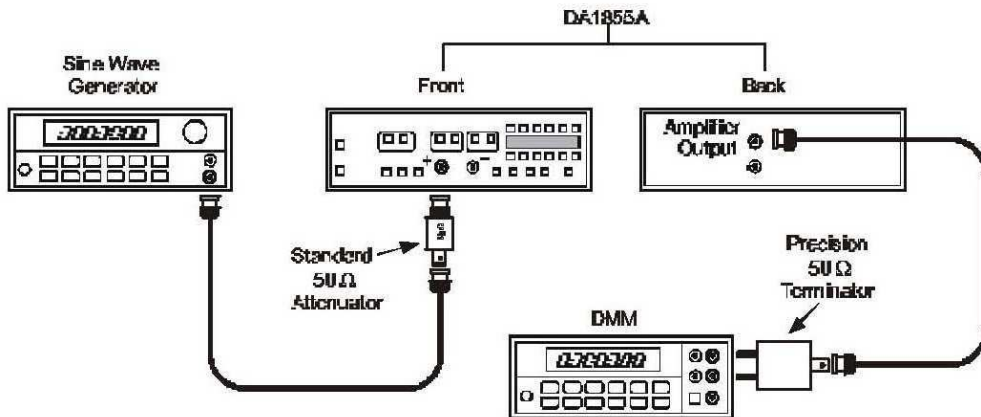

Figure 9, X1 Gain Accuracy
- i. Remove the banana plug adapter from the DMM and connect the DA1855A **AMPLIFIER OUTPUT** connector via another coaxial cable and the precision 50 Ω termination to the DMM. See Figure 9.